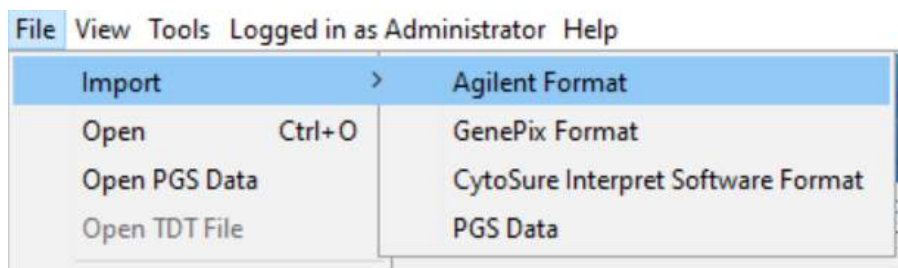

Figure 16: Importing Agilent Format feature extracted files using the CytoSure Interpret Software toolbar.
1. In the toolbar, choose **File -> Import** followed by **Agilent Format** or **GenePix Format** to load feature extracted .txt or .gpr files respectively (Figure 16). A browser window will appear which can be used to navigate to the appropriate location in your file system. After highlighting the required data file, click **Open**.